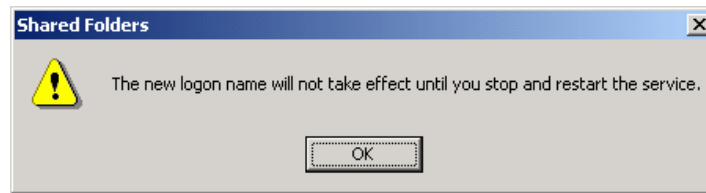

Figure 1-239. Confirmation of Restart Service Hint
8. The dialog box in Figure 1-239 might be displayed, which asks the user to stop the service again. This can be ignored and the box can be dismissed by pressing **OK**.